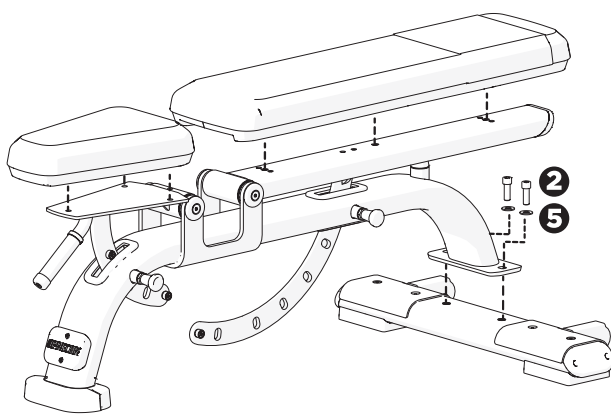

Figure 1
1. Attach the bench frame to the rear foot (Figure 1) using two bolts 2 and two washers 5.